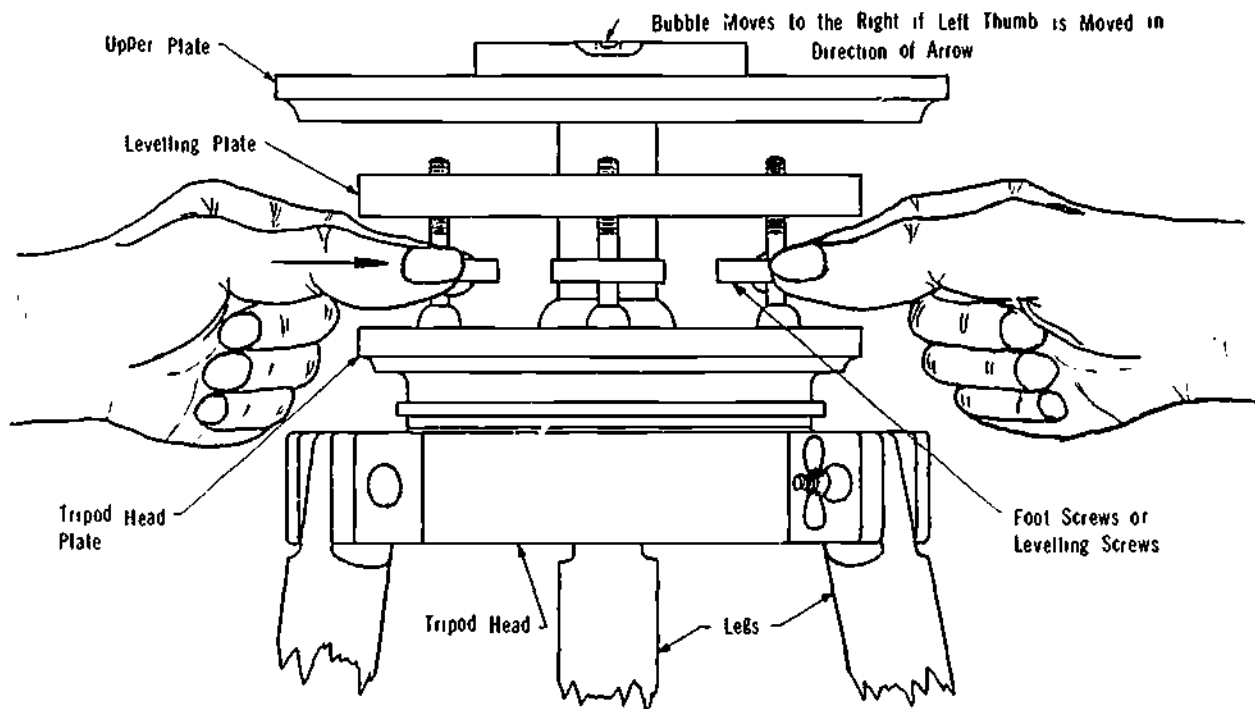

Figure 2-84. Adjusting Foot-Screws
**Adjusting the Foot-Screws on a Level with Four Screws** See Figure 2-84.